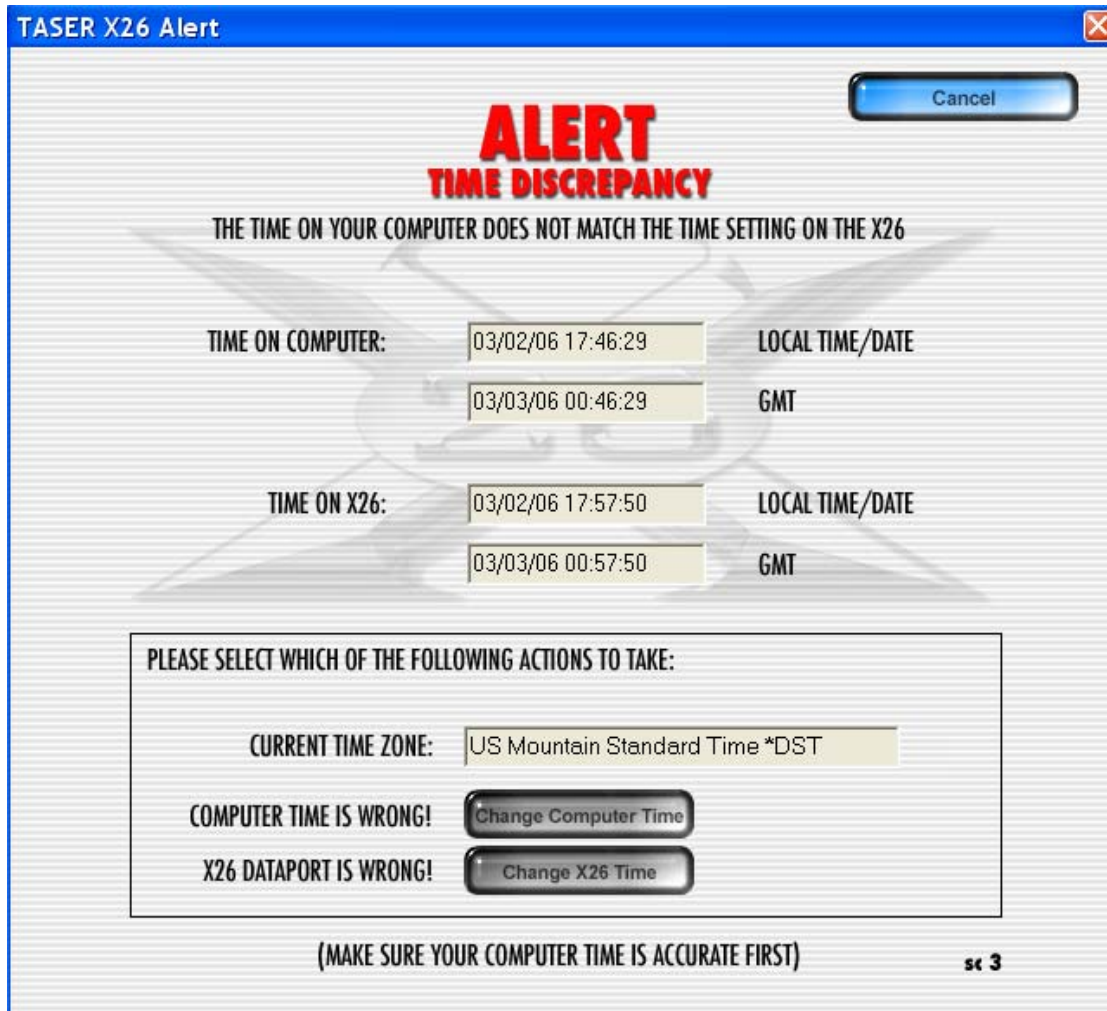

Figure 11
8. If the **ALERT Time Discrepancy** dialog box (Figure 11) appears, the date/time on your computer is not within ± 10 minutes of the weapon time. See the *CLOCK OPERATION AND INFORMATION* section and perform the following steps. You will not be able to proceed until resolving the time discrepancy.